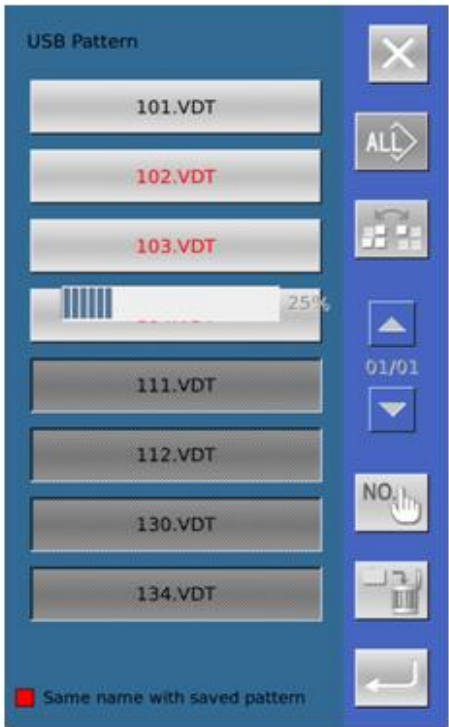

Figure 2
⑧ Press button A to enter the interface for inputting patterns from U Disk Note: If the pattern in U disk has the same name to the pattern within the panel, the pattern number will be displayed in red. The pattern with red code can only be inputted with button F, as shown in figure 1 A、Use 【Up Arrow】 , 【Down Arrow】 to turn the page B、Use these three methods to select patterns ➤ Press  to select all the patterns ➤ Press  to select in contrary way ➤ Input Pattern Number C、Press  to finish pattern input. At this moment, the patterns inputted and the patterns selected share the identical pattern number, as shown in figure 2	 Figure 1